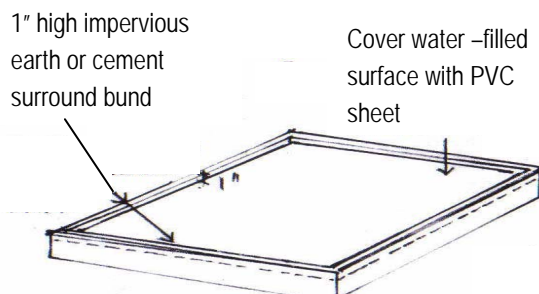

Fig 8 - **Curing concrete slabs**
- Provided a bund of impervious earth or cement to surround the concreted surface so that there is at least 1" of water ponded on the highest surface (See fig 8)